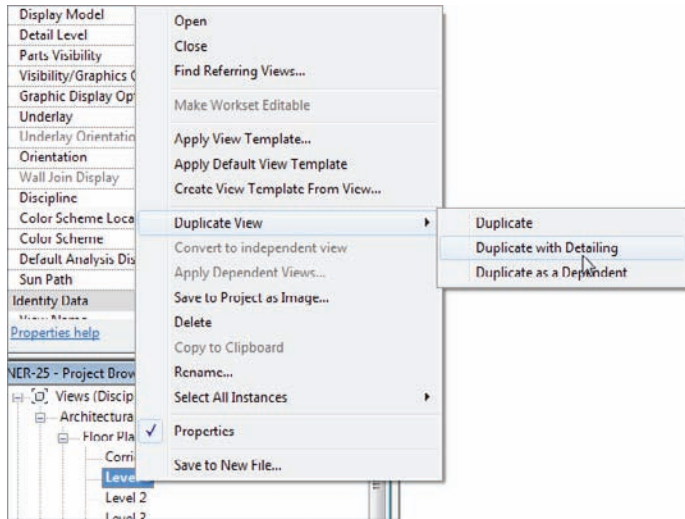

FIGURE 13.1 Right-clicking the Level 1 floor plan in the Project Browser
2. Select Duplicate View > Duplicate With Detailing, as shown in Figure 13.1.